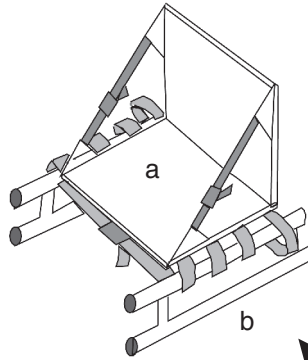

Fig. 1a
2. Assemble Padded Seat (see figure 1a) by strapping Padded Seat Bottom over the Seat Support Frame Member. Seat back adjusts using Side Straps (see figure 1a)